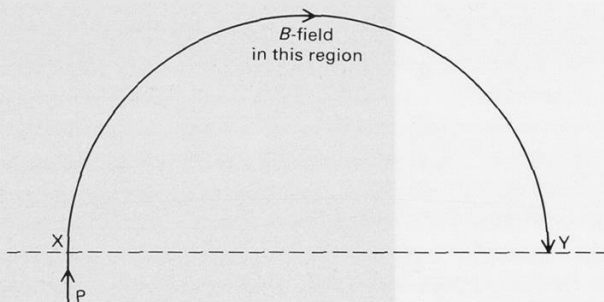

Figure H80
- 15, 16(R)** A particle P with charge Q , mass m , and constant speed v crosses line XY into a region where a uniform magnetic field B causes it to move in a circular path of radius r , determined by the equation $BQv = mv^2/r$, so that $r/v = m/BQ$. The particle P takes a time $t = \pi r/v$ to travel in a semicircle from X to Y (figure H80).